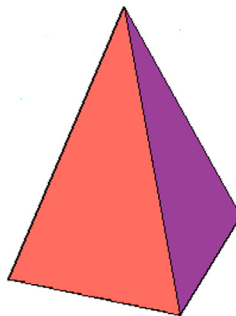

FIGURE 23.24 Pyramid primitive.
Step 4. Drag your mouse (or enter a value) and the pyramid shape is automatically extruded, as seen in Fig. 23.24. Just like with the cone, you can vary the top radius of the shape.